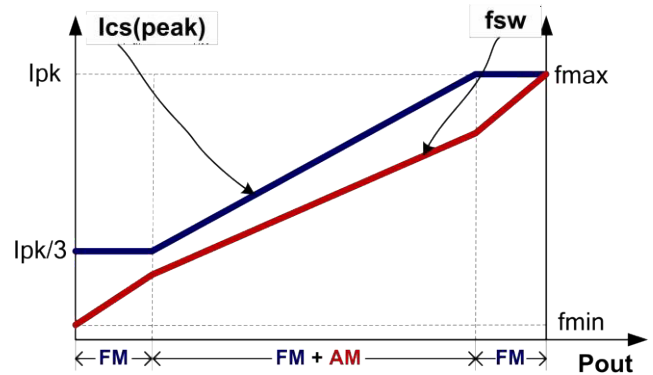

Fig.4
To meet the tight requirement of averaged system efficiency and no load power consumption, a hybrid of frequency modulation (FM) and amplitude modulation (AM) is adopted in CY303X which is shown in the Fig 4.